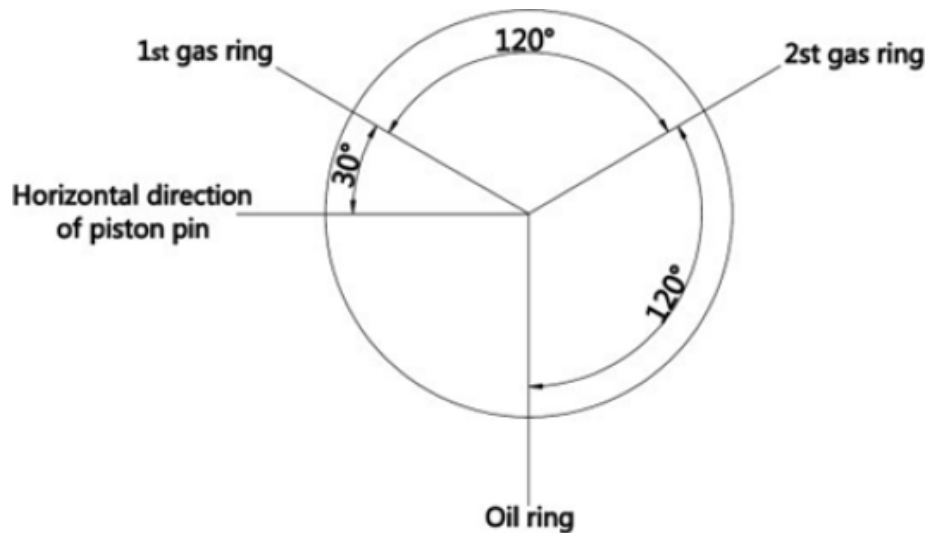

Figure 121.
4. Check all the connecting rods (Figure 121, Item 6) and make sure that the connecting rods are in the same weight group.
9. Stagger the piston ring end gaps at 120° intervals (Figure 121). Do not position the top piston ring end gap in line with the piston pin.